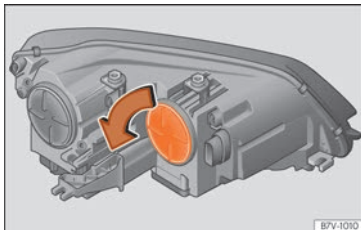

Fig. 109 In the engine compartment: turning light cover.
2.	Rotate the cover Fig. 109 in the direction of the arrow and remove it.
7.	Rotate the cover Fig. 109 in the opposite direction to the arrow as far as it will go.